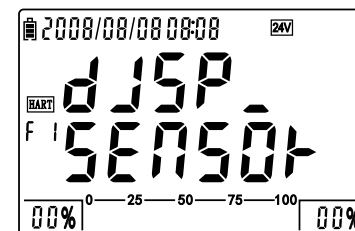

Figure 4-5-1-1: F1 entrance interface
- Switch to HART function 1 by pressing  , as figure 4-5-1-1.
- Display the sensor's range by pressing  , as figure 4-5-1-2.
- Press  to return to figure 4-5-1-1; switch to function 2 by pressing  .